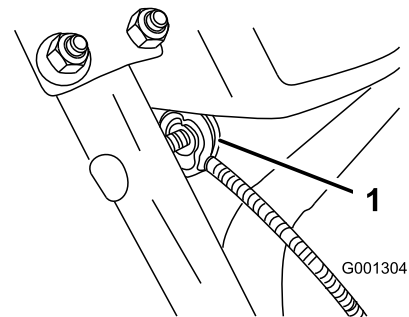

Figure 6
2. Remove the nut and washer from the handle, attach the cable clamp on the cable to the handle, install the washer and the nut, and tighten the nut by hand (Figure 6).